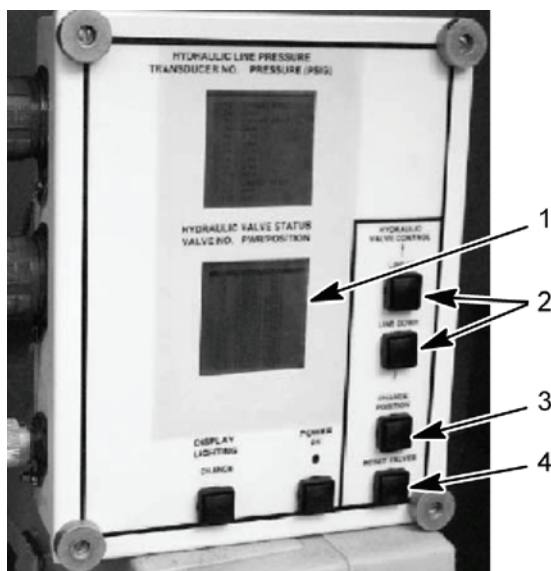

Figure 21. HDC Control Box
- Reset all HDC solenoid valves by selecting the RESET VALVES button (Figure 21, item 4) on the HDC control box.
- Disable ejector; manually close V23 (Figure 22, item 1) on the DCV bank. Using LINE UP or LINE DOWN button (Figure 21, item 2), select V1 on the HDC display (Figure 21, item 1). Close V1 on the HDC display (Figure 21, item 1) by selecting the CHANGE POSITION button (Figure 21, item 3) on the HDC control box.